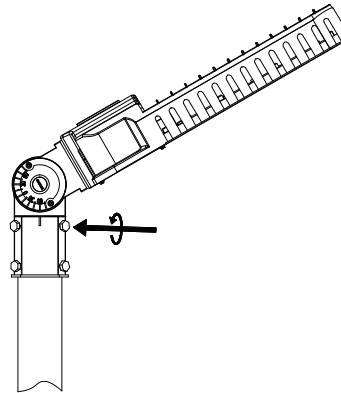

FIG. 9
- Tighten the four M8 bolts on the slipfitter and secure it to the pole (see **FIG.9**).